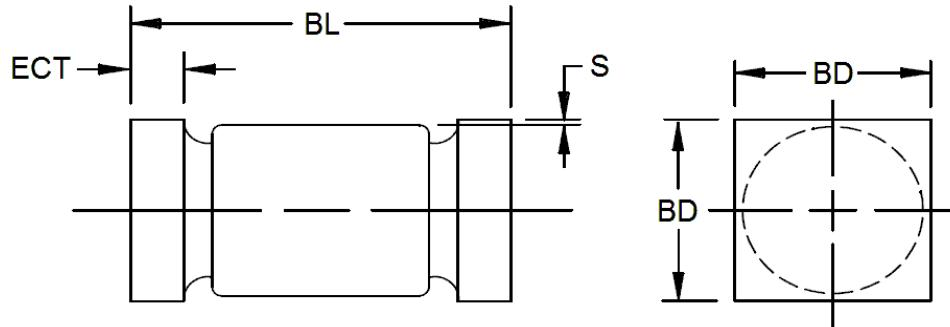

**FIGURE 4**
The TVS low capacitance device configuration described in this data sheet is shown in Figure 4 involving a TVS and a unique diode in series and opposite direction. For bidirectional low capacitance TVS applications, use two (2) low capacitance TVS devices as described in this data sheet in anti-parallel as shown in Figure 5. This will result in twice the capacitance of Figure 4 specified in this data sheet.